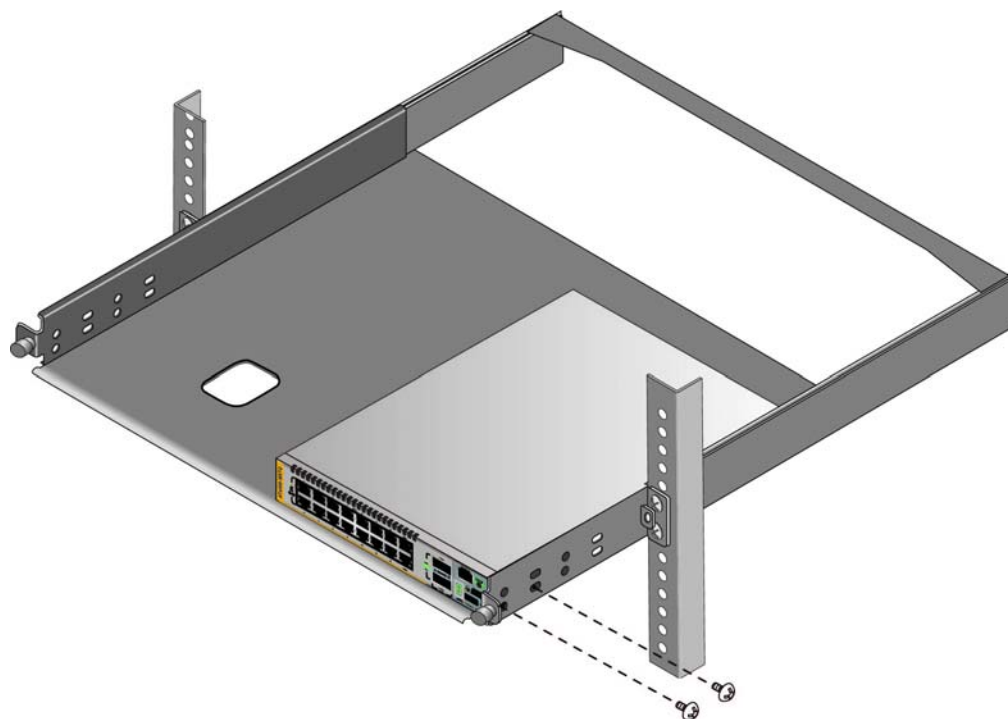

Figure 33. Securing the Switch to the AT-RKMT-J15 Bracket
8. Install two M4x6mm screws included with the switch to secure the switch to the bracket. Refer to Figure 33.